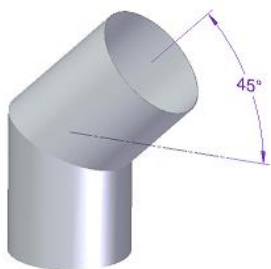

Figure 20 - Correct elbow angle
* Under rated operating conditions, the circulation of combustion gases should create a draught of 12 Pa about one metre above the chimney throat. For proper installation, at least 2 metres of metal flue tubing, with the same diameter as the unit's smoke outlet, should be fitted vertically above the unit. Additional lengths to this tubing may use piping sections with a max angle of 45°. Figure 20 and 20 illustrate the correct and incorrect angles for pipe elbows, should they need to be installed.